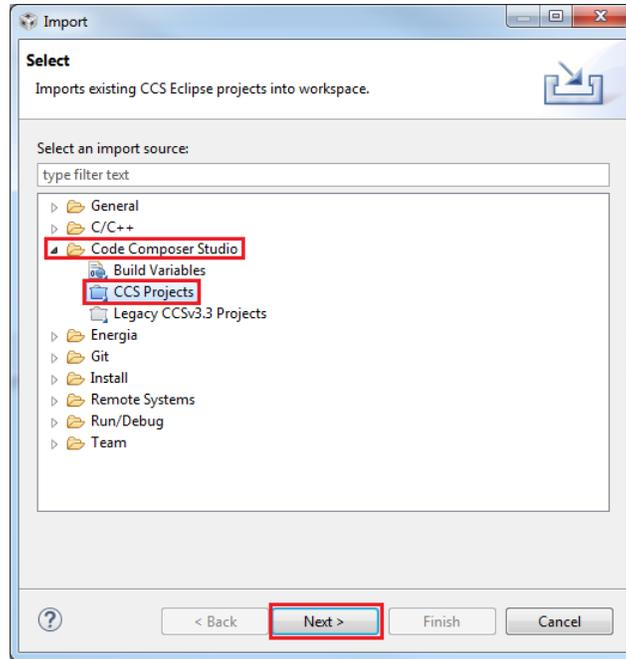

Figure 3-1. Import the Examples
3. Click *Code Composer Studio* to expand then click *CCS Projects*. Click Next (see Figure 3-1).